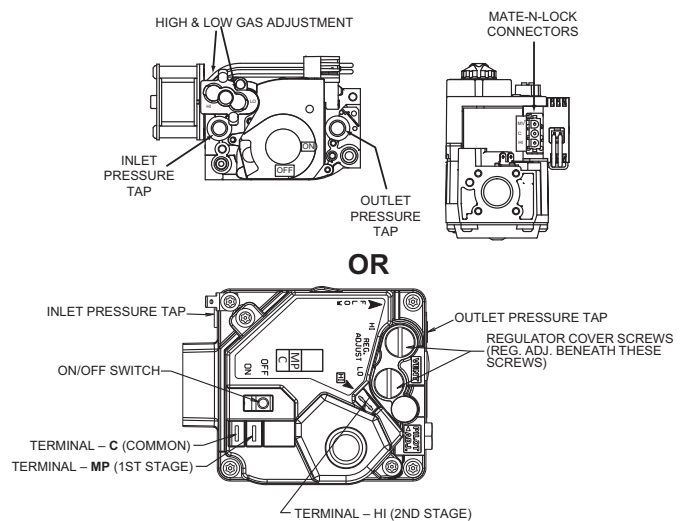

Figure 33: Typical Two Stage Gas Valve
- Turn the gas valve clockwise to the OFF position (see Figure 33).
This gas furnace has two heat stages. Therefore, the gas valve has two adjustment screws located under a plastic protective cover. The second stage adjustment screw is adjacent to the “HI” marking on the valve and the first stage adjustment screw is located adjacent to the “LO” marking on the valve (See Figure 33).